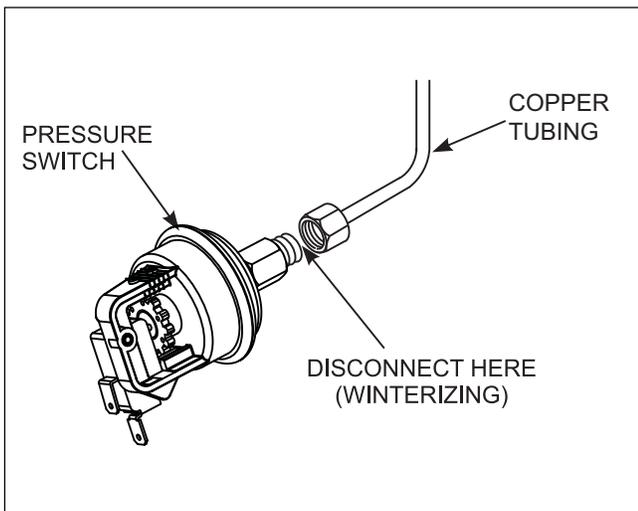

Figure 21. Pressure switch copper tubing.
5. Disconnect the pressure switch from the copper tubing (see Figure 21).